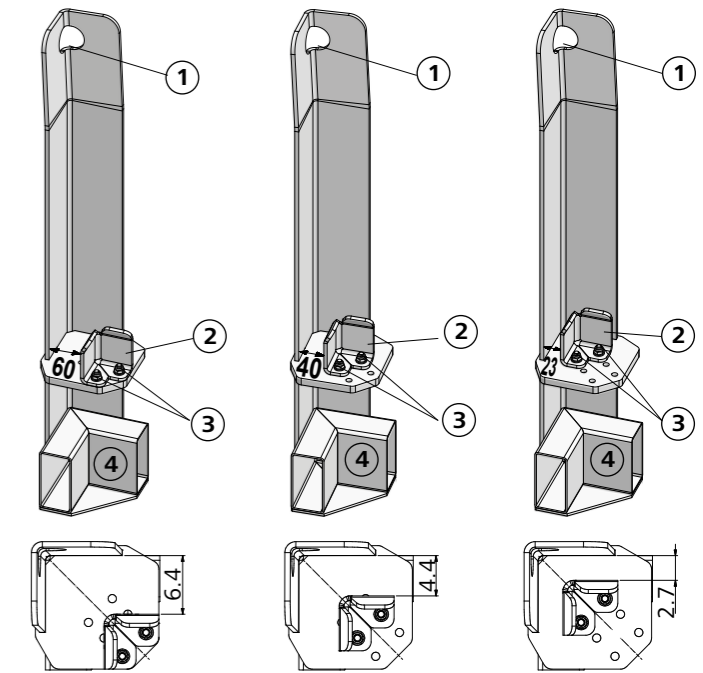
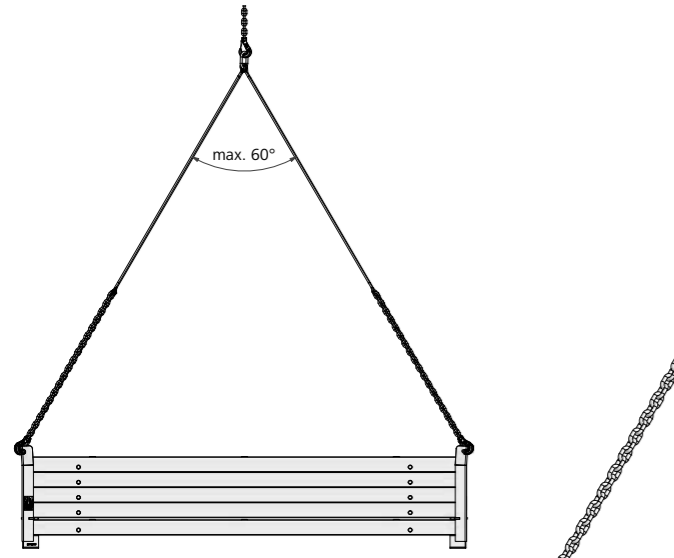
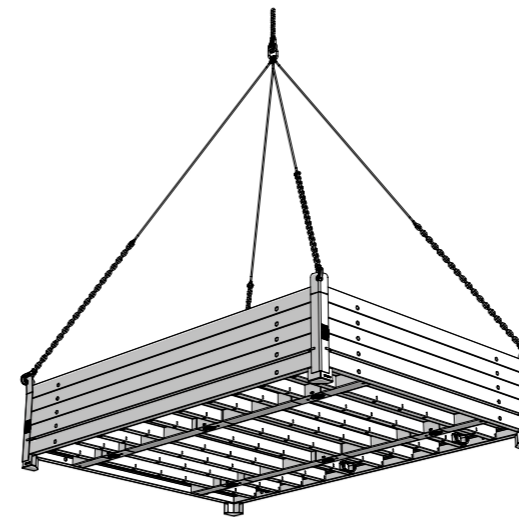

Fig. 1
Fig. 3: maximum opening angle 60°
Fig. 6
- During the lifting process (Fig. 3) ensure that the load does not swing to and fro or strike other parts. The tips of load hooks must not be subject to load and must move freely in the attachment eyelet ①.
The stacking angle 60/40/23 is used to move and store Mammut XT, Mammut 350, StarTec XT, StarTec, AluStar, EcoAs and AluFix wall formwork panels of the same size. Four stacking angles 60/40/23 are required for each application as a unit. The stacks are moved individually using a crane sling (Fig. 3) or a forklift truck. They are used as lifting devices between the crane and the load. A minimum of two wall formwork panels are to be used, whereby one panel lies on the hollow profiles ④ with the facing side upwards and the second panel lies on the plate with adjustable bracket ② located above this. A maximum of five wall formwork panels may be used for each transport unit (Fig. 3). The adjustable bracket must be bolted in the specified position (Fig. 1). A load hook of a 4-rope crane sling is attached to the attachment eyelet ① of each stacking angle. During use, the stacking angle 60/40/23 remains attached to the formwork at all times.
Set the adjustable bracket ② on the stacking angle 60/40/23 to suit the panel frame width in question (EA/AF = 23 mm, AS/ST/ST XT = 40 mm, M / M 350 / M XT = 60 mm) (Fig. 1). Insert a stacking angle 60/40/23 at each corner of the wall formwork panel so that the panel lies on the supporting surface ④ with the facing side upwards (Fig. 6). This protects the facing when it is being moved by a forklift truck.